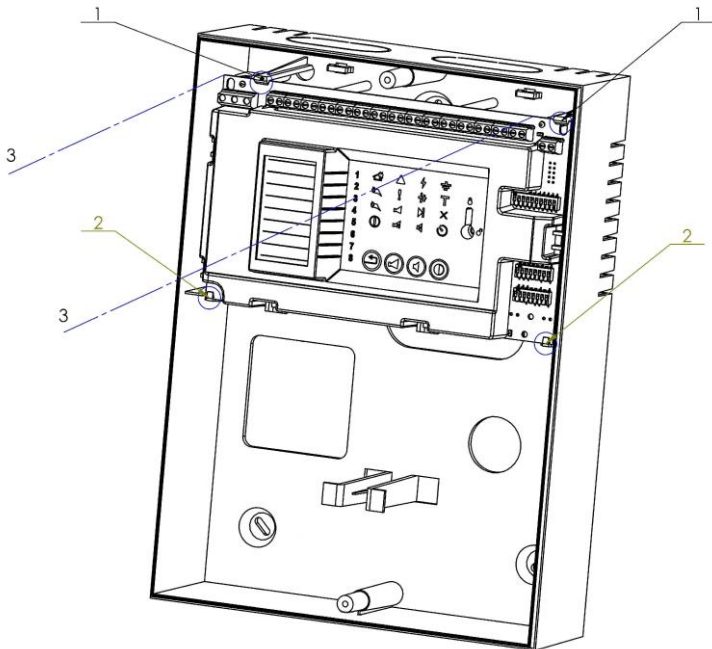

Fig.4
- 2.4. Pull-out the main interface board (fig.4) following the sequence:
- push the holders on the top side (fig.4, pos.1);
- take out (from the top holders) the interface board and leave it fixed on the bottom holders (fig.4, pos. 2);
- pull the interface board out of the bottom side holders (fig.4, pos. 3), till fully released;